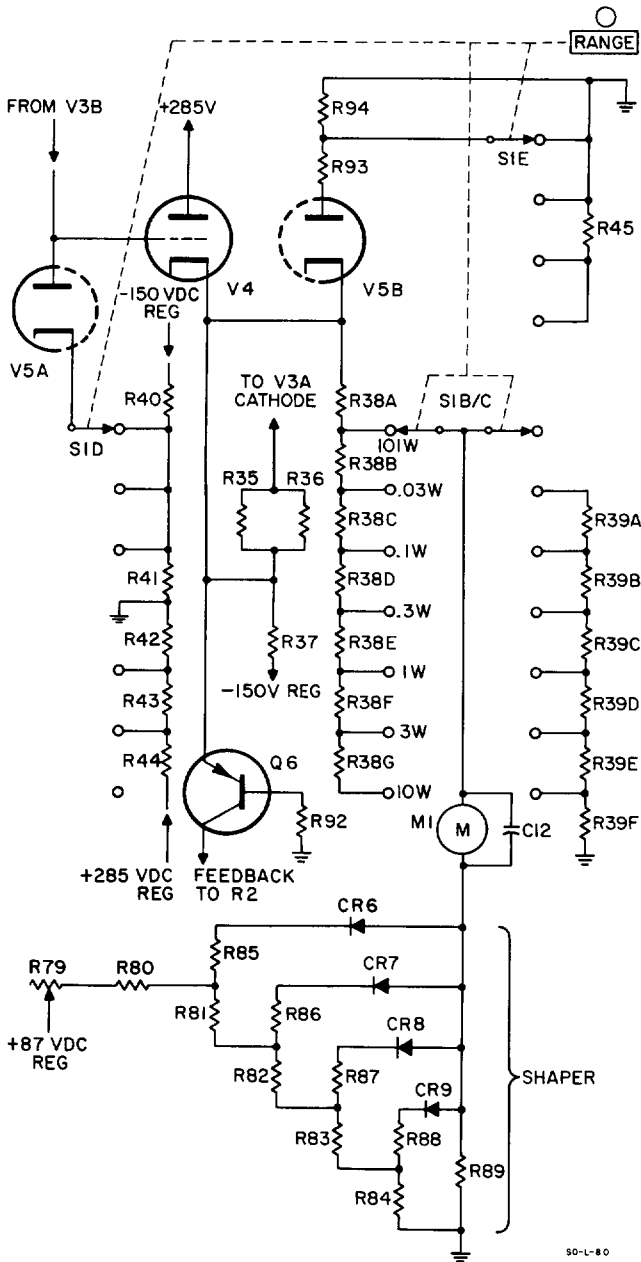

Figure 3-4. Cathode Follower V4, Clamp V5A/B and Shaper
3-16. The dc amplifier (figure 3-4) is composed of tube V3 and cathode follower tube V4. The dc amplifier V3A has negative feedback applied to its cathode to improve the linearity and to stabilize the gain. Output cathode follower V4, is biased near cutoff when there is no signal from the synchronous detector. Thus, the cathode follower supplies power to the comparison load when there is a positive output from the detector, but is driven into cutoff by a negative signal. When the meter is zeroed, a small current flows through the cathode follower V4, and resistors R35, R36 and R37, but the cathode is at ground potential so no power is dissipated in the comparison load (R2). When the cathode follower is cut off, its cathode goes below ground and a small current flows in reverse direction from ground through R35, R36 and R37 to the negative supply. This current causes the meter pointer to move below zero. Without this movement there would be no way of telling when the ZERO SET controls have been moved too far. Positive feedback is applied to the meter circuit, but is prevented from being applied to the comparison head R2 by V5B and switch Q6.
a. One section, V5A (see figure 3-4), in conjunction with an attenuator operated by section S1D of the RANGE switch limits the signal to the input cathode follower V4. Clamp V5A prevents damage to the meter circuit if the RANGE switch is set to too low a range.